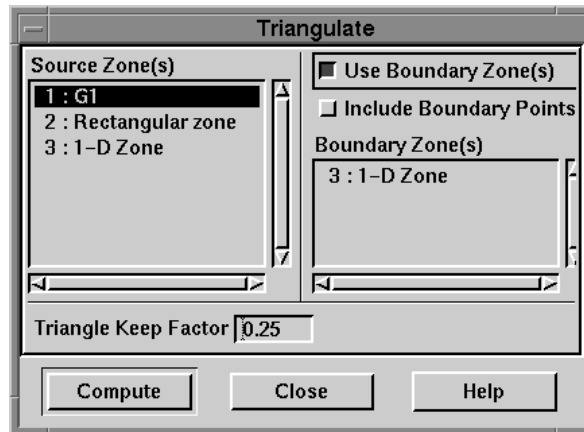

Figure 25-19. The Triangulate dialog.
1. From the Data menu, choose Triangulate. The Triangulate dialog appears, as shown in Figure 25-19.